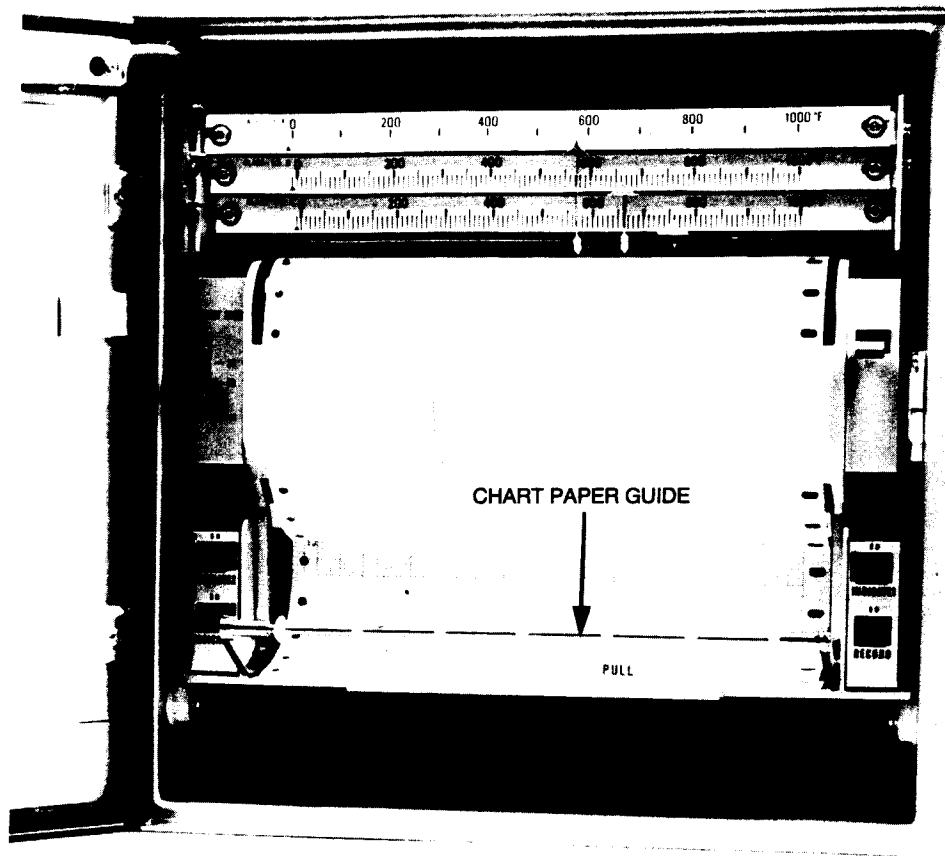

Figure 2-8. Pulling Forward Chart Guide
5. Push the platen up to its vertical locked position. Pull forward the chart guide so the paper can pass behind it. See Figure 2-8.